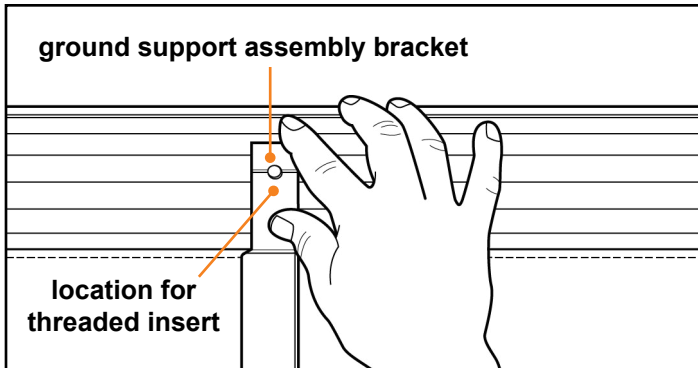

Fig.38
3. Position the Ground Support assembly bracket at the center of the roll tube (Fig.38).
4. Mark the location for the bolt at the center of the roll tube using the Ground Support assembly bracket (Fig.38) as a guide.